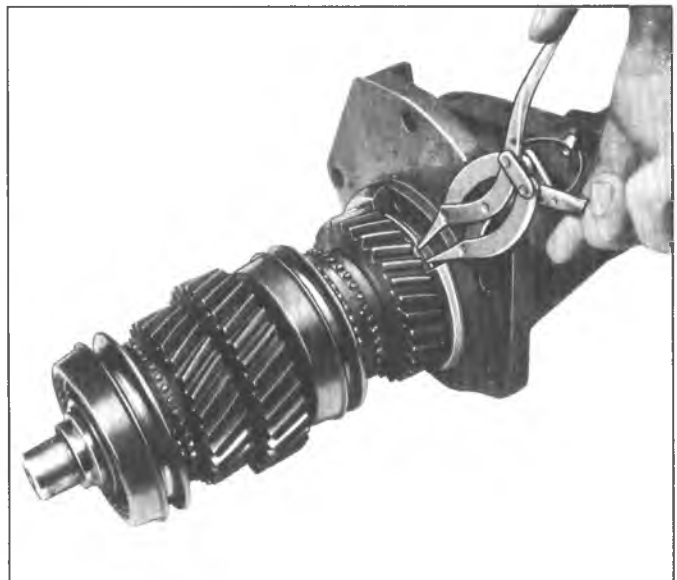

Fig. 3G--Removing Rear Extension From Mainshaft
8. Using snap ring pliers, expand the snap ring in the extension which retains the mainshaft rear bearing (fig. 3G). Tap gently on end mainshaft and remove extension from mainshaft.
4. Using snap ring pliers, expand the snap ring in the extension and assemble extension over rear of mainshaft and onto rear bearing. Seat snap ring in rear bearing groove (fig. 3G).
5. Load the mainshaft pilot bearings (16) into the drive gear cavity and assemble the 3rd speed